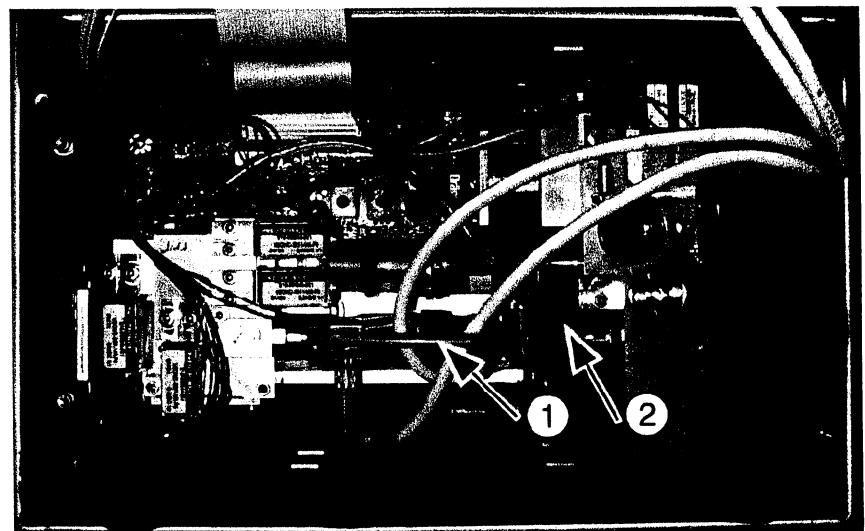

Fig. 1 Removing tubes
3. Remove tube Fig. 1/2 from connector block.